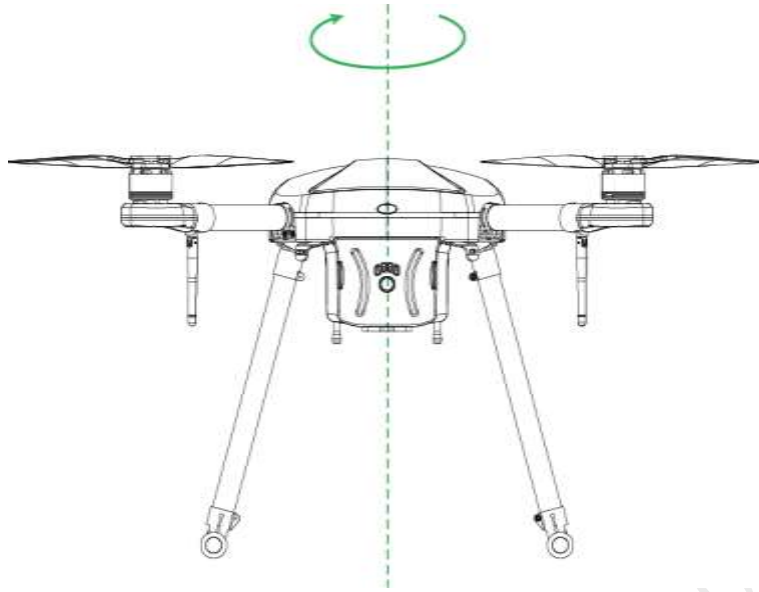

Figure 0-31
Step 3 Keep the aircraft horizontal and rotate it for 360° horizontally, as shown in Figure 0-31.